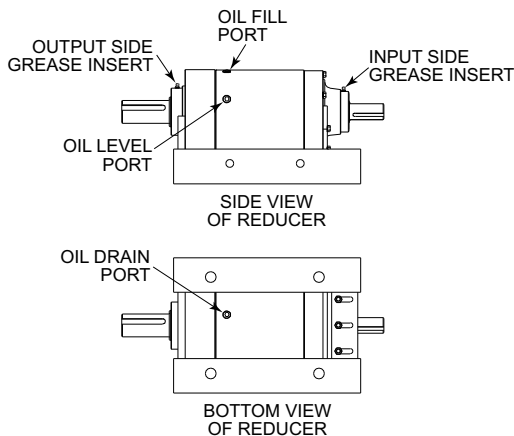

Figure 5.1 Reducer Oil Ports and Grease Insert Locations
3. Remove oil fill plug and the oil level plug (reference **Figure 5.1**).
2. Remove oil fill plug for ventilation (reference **Figure 5.1**).
1. Clean grease inserts, reference **Figure 5.1** for location.